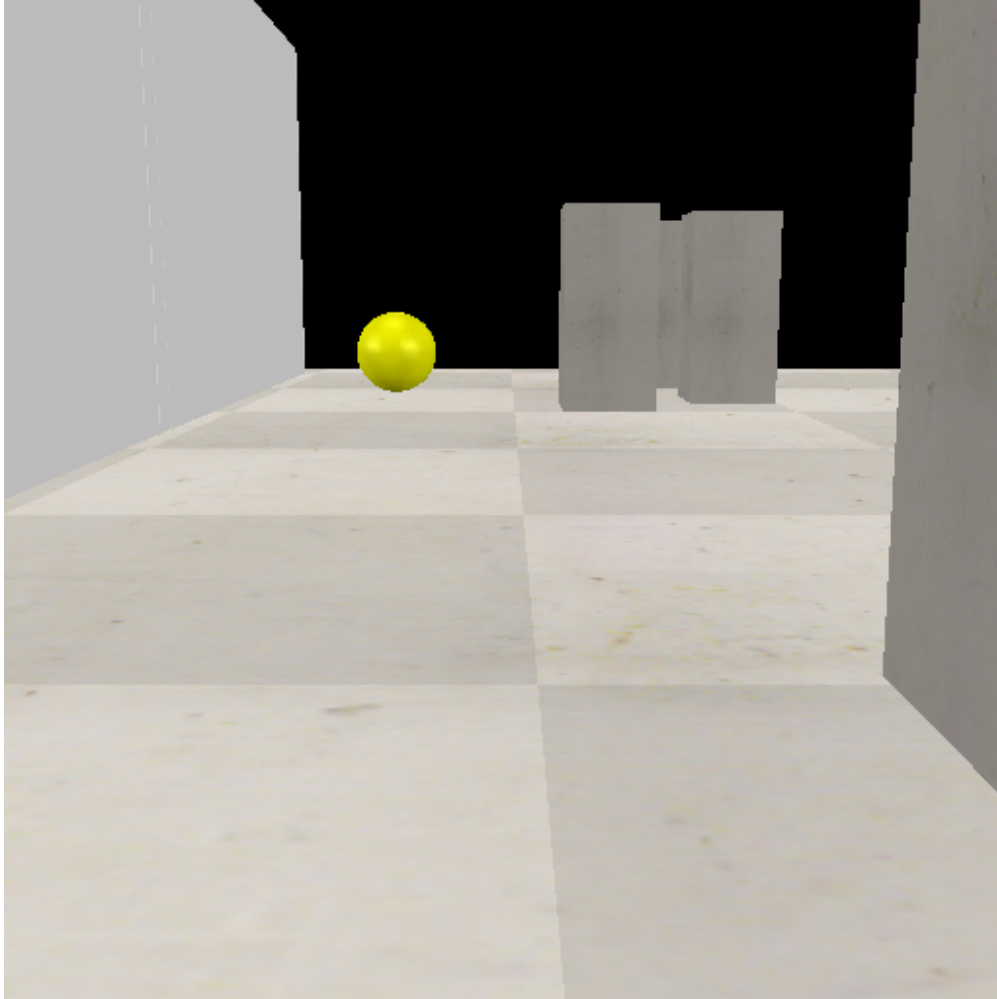

Figure 5: Yellow ball to follow
4. Visual Servoing. There is a slowly moving yellow (rgb:255,255,0) ball (Fig. 5) in the environment and you have to write program (roscnode, in c/c++ or python) to control the mobile robot to follow the ball. 30%